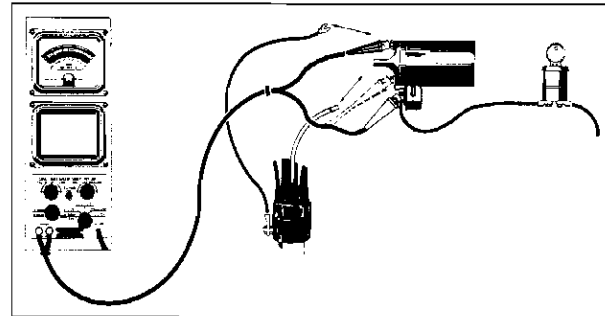

Fig. 11-25 Coil Capacity Test
2. Disconnect the distributor primary lead (and Tach Dwell lead if used), preferably at the coil as shown in Fig. 11-25.
5. Connect tester leads as shown in solid lines, Fig. 11-25 to include ballast resistor in test circuit.
NOTE: If coil tests BAD, reconnect positive tester lead as shown by dotted lines in Fig. 11-25 and readjust Coil Set Regulator until meter reads at set point 8, then retest Coil.